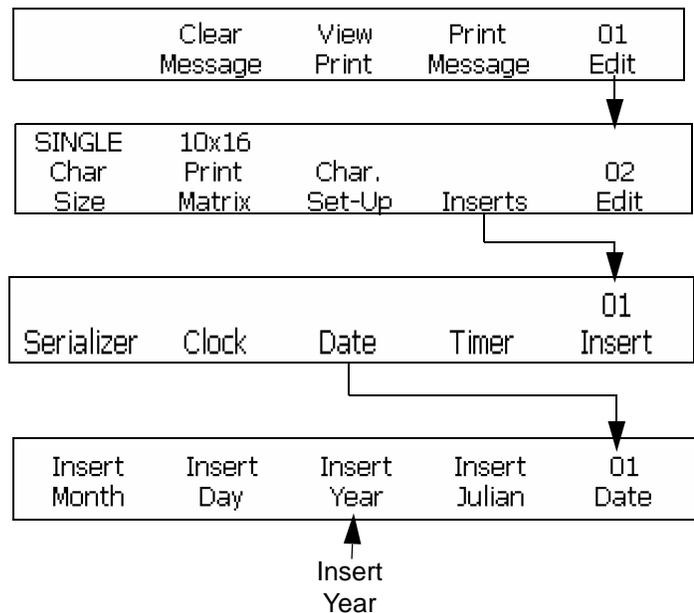

Figure 6-32: Accessing Frame <01 Date>
- 1 Begin in the Frame <01 Date>. Refer to Figure 6-32 on page 6-39.